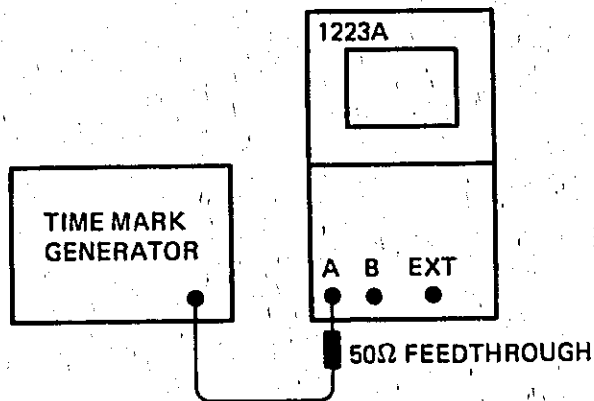

Figure 4-5. Sweep Ranges and Magnifier Test Setup.
1. Connect the Time Mark Generator to the 1223A as shown in Figure 4-5 and set the 1223A controls as follows: